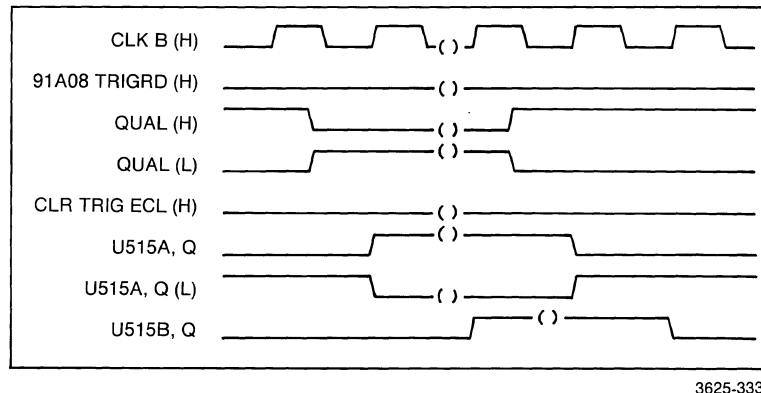

Figure 4-37. Qualifying before triggering the pipelined internal timing sequencer.
If the qualifier goes low (stops storage) before the trigger occurs, the pipeline performs the actions diagramed in Figure 4-37. This causes the DELAYED QUAL(L) line to go high two clock cycles after the qualifier signal goes low. When the qualifier line returns high, the DELAYED QUAL(L) signal returns low after one clock cycle.